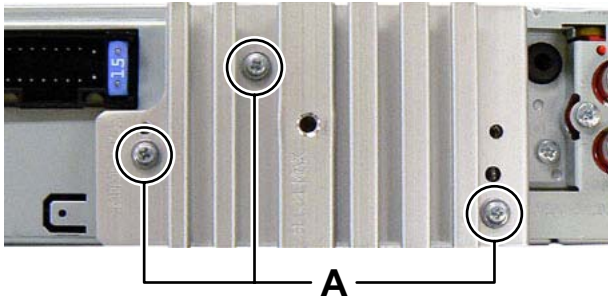

Fig.1
3.1.1 Removing the bottom chassis (See Fig.1, 2)
- (1) Remove the three screws **A** attaching the Heat sink. (See Fig.1)
3.2.1 Removing the MECHANISM CONTROL BOARD assembly (See Fig.1 and 2)
- (1) From the bottom side of CD MECHANISM assembly, remove the solders from the soldered sections (a, b and c) on the MECHANISM CONTROL BOARD assembly. (See Fig.1.)
- (2) Remove the three screws **A** attaching the MECHANISM CONTROL BOARD assembly. (See Fig.1.)